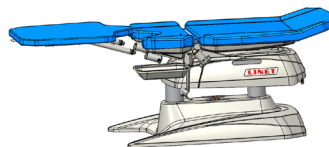

Fig. 6 Removing the patient surface
- 3) Then hold the patient surface extension on the long sides of the upholstery with both hands and pull the patient surface extension away from the chair until the guide bars are fully removed from both bracket holes (Fig. 6)